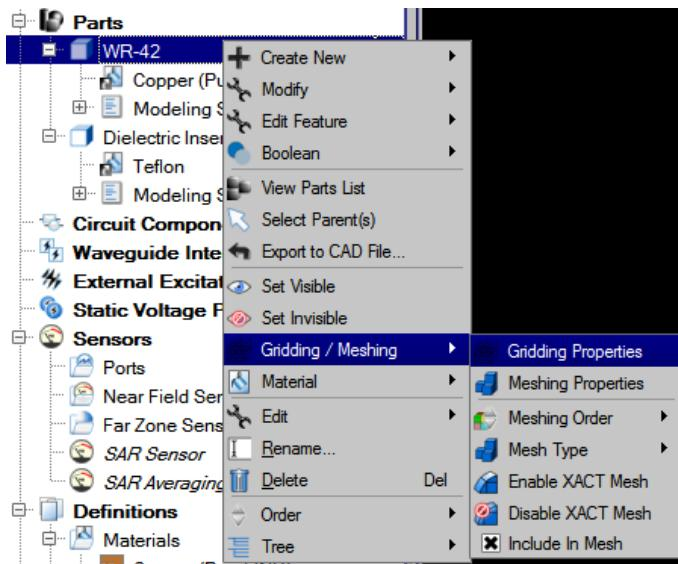

Figure 5.14: Gridding Properties Menu Item
- In the PROJECT TREE under the PARTS branch right click on the “WR-42”, navigate to GRIDDING/MESHING and choose GRIDDING PROPERTIES as shown in Figure 5.14.